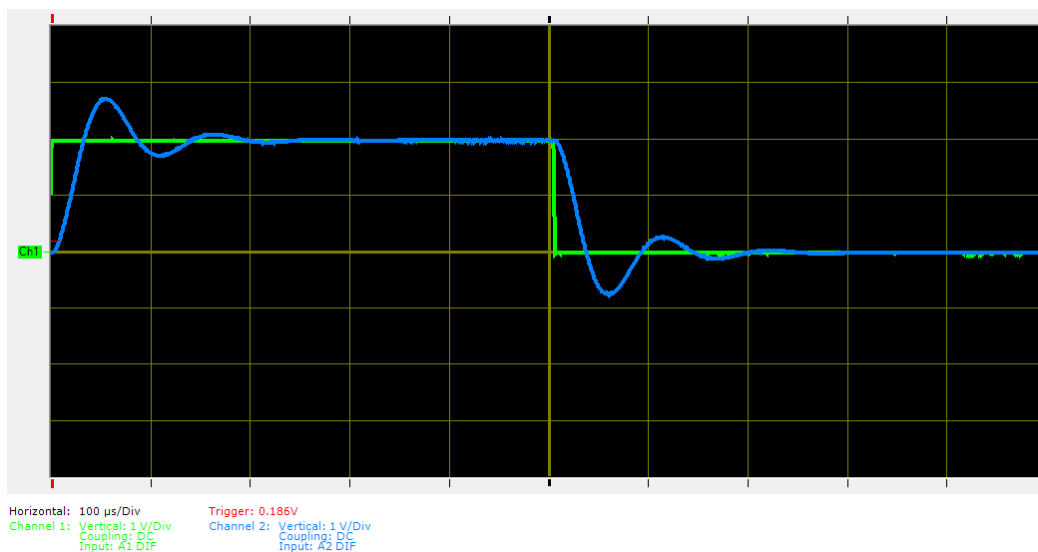

Figure 15. (Open loop) step response of our second order plant.
3) To make sure your plant (system) is correct, we will first test the plant, so you need to disconnect this system from the feedback system. Set the input to a 1 kHz square wave, and **Time/Div** to $100\ \mu\text{s}$. The output is the voltage across the capacitor, and you should get a graph like that in Figure 15. Note that this system has a settling time of approximately 0.25 ms and about a 30% overshoot. *Include a screen shot of this in your memo.*